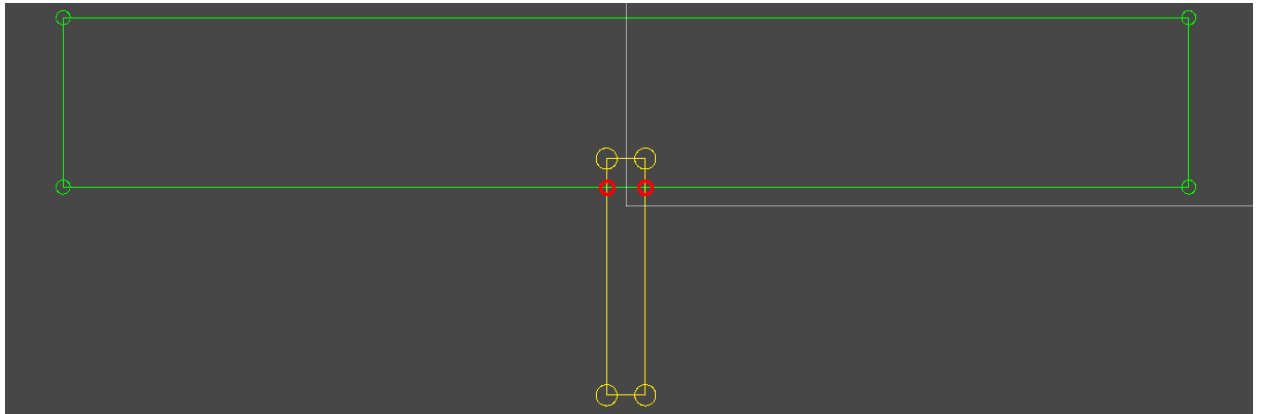
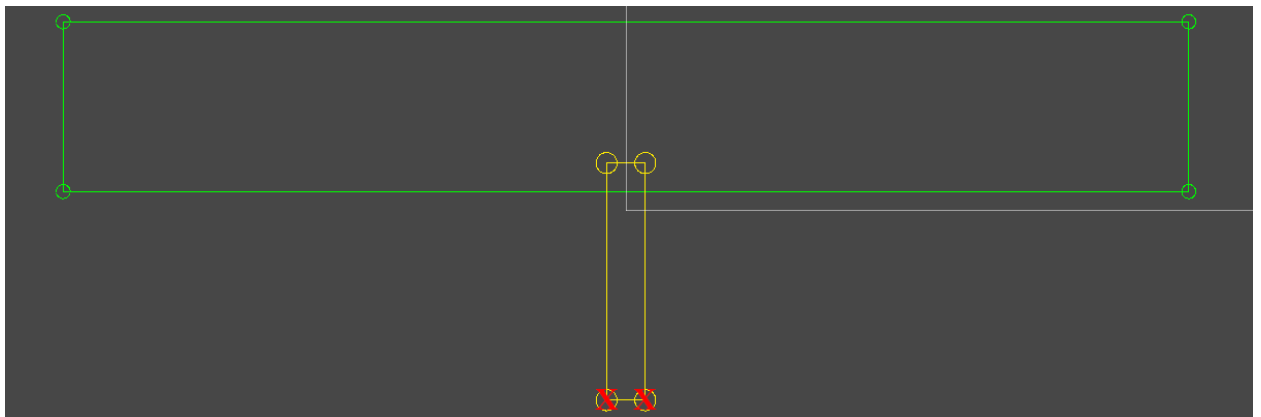
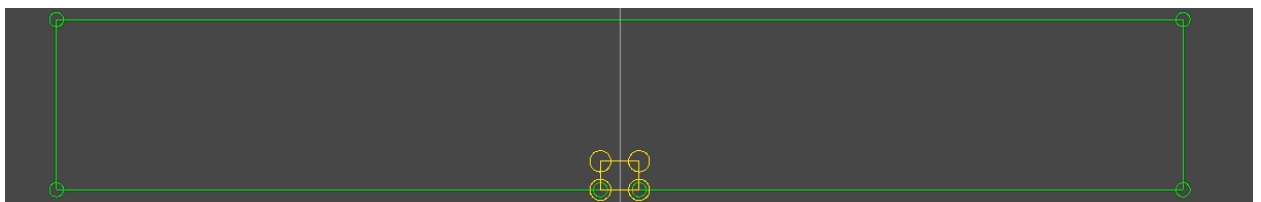

Figure 9
Figure 10
Figure 11
- 3) Change of contours. For both contours, you need to add the intersection points between the contours; when adding, you cannot violate the order of traversing the contour (Figure 9). After the points have been added, it is necessary to remove the points (except for the points lying on the tool contour lines) that fell inside the tool contour. And now we delete the points from the contour of the tool that did not fall into the contour of the bar (unchanged contour of the bar) or lie on its lines. Deletion - Figure 10. The result is Figure 11. In the code, this is the Wood class, the `_cut` method.